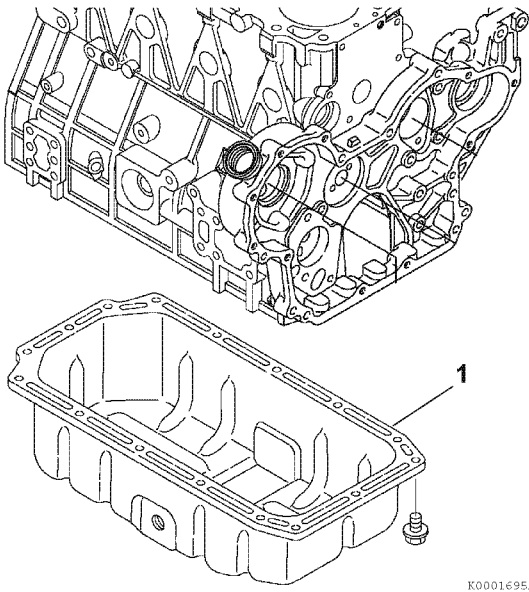

Figure 6-46
2. Remove the oil pan (**Figure 6-46, (1)**).